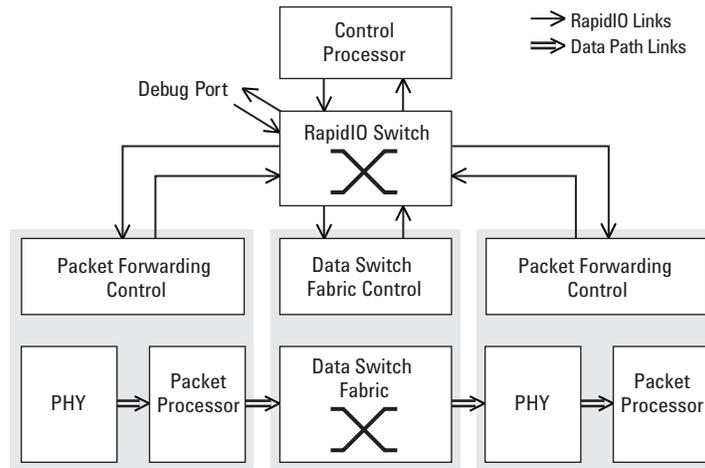
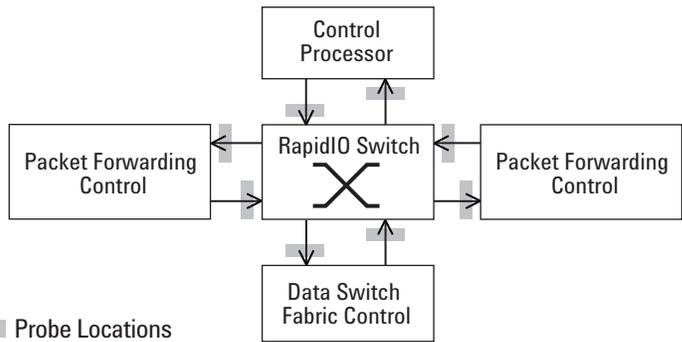

Figure 1. Example IP router design with RapidIO interconnects
Figure 3. Probe connection locations
Figure 1 shows an example system design incorporating RapidIO links in an internet protocol (IP) router. A single system controller communicates to packet forwarding cards and a packet switch fabric subsystem through a RapidIO switch.
The best place to locate probes is as close as physically possible to the receiving device's termination. This enables the effects of the circuit board transmission lines to be measured with eye scan, and also minimizes the level of signal reflections seen at the probe. Figure 3 indicates where to locate probe connections on the example system from Figure 1. When probing signals between a sender and receiver, you must consider the effect of the probe on the signal. Figure 6 shows the electrical load model for the E5387A probe.